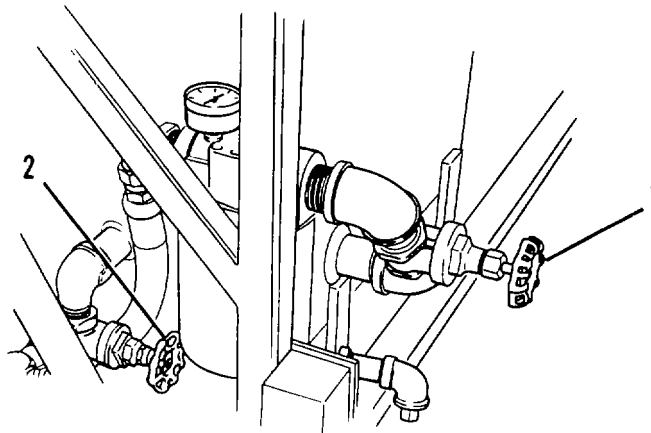

Figure 3-31.2. Hydraulic System Gate Valves.
- (3) Open (turn fully counterclockwise) the suction and return gate valves (1 and 2, Figure 3-31.2).
- (4) Operate hydraulic system and check filters for leaks.
- (5) Check hydraulic reservoir for proper fluid level. Refer to para 2-5, PMCS.
- (6) Perform operational check for proper function.